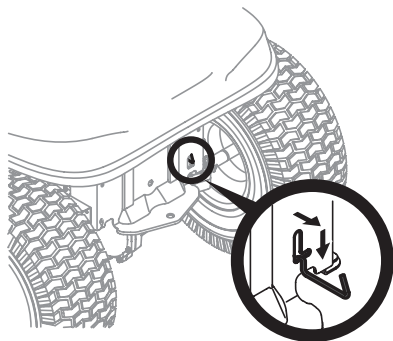

Figure 2
2. Engage the transmission bypass rod to move the tractor manually without starting it. The transmission bypass rod is located on the rear of the tractor, on the frame. Engage the bypass rod by pulling out and down. See Figure 2.